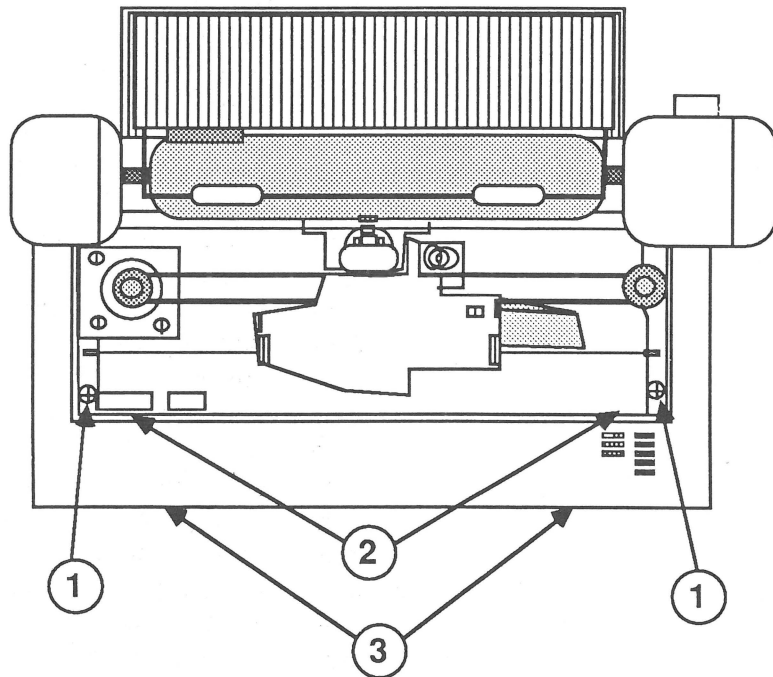

FIGURE 1
3. Loosen the two screws (Figure 1, #1) as far as they will go.
4. Place your fingers over the edge designated by Figure 1, #2, and place your thumbs at the location designated by Figure 1, #3. Gently pull the cover up and toward you until it snaps free. **Do not yet remove the cover.**
5. Tighten the two screws (Figure 1, #1).